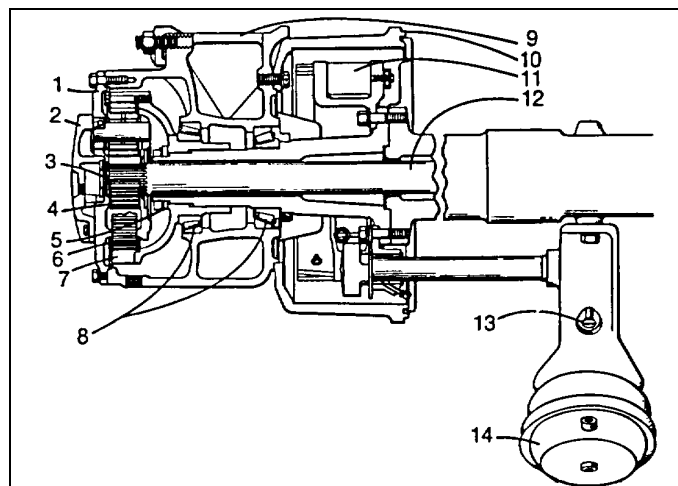

Fig. 3-10
- (b) Adjust the brake slack adjuster (See Fig. 3-10) to change position of the slack adjuster with respect to the brake camshaft. Turning the adjusting screw clockwise will decrease clearance between brake lining and drum.